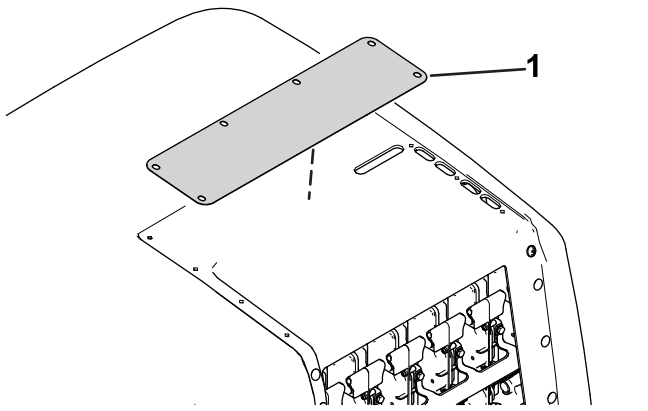

Figure 24
10. Remove the plate under the hood cover (Figure 24).